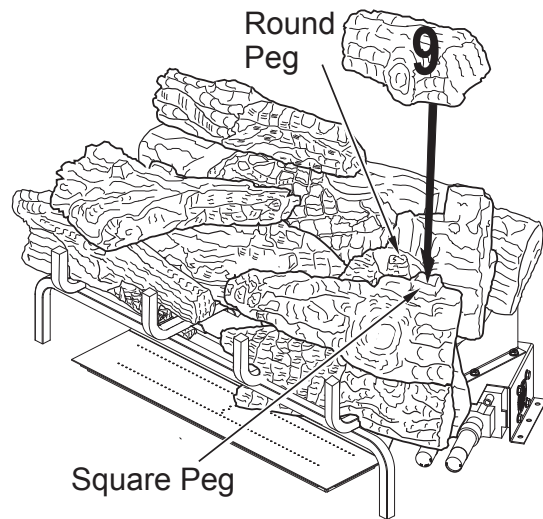

Figure 30 - Installing Log # 9
9. Place the top right log (#9) on top of the right rear chunk log (#7) and front right mid log (#8) as shown in **Figure 30**. Match the round peg on the top of the right rear chunk log (#7) with the round hole on the bottom of the top right log (#9) and square peg on the top of the front right mid log (#8) with the square hole on the bottom of the top right log (#9).